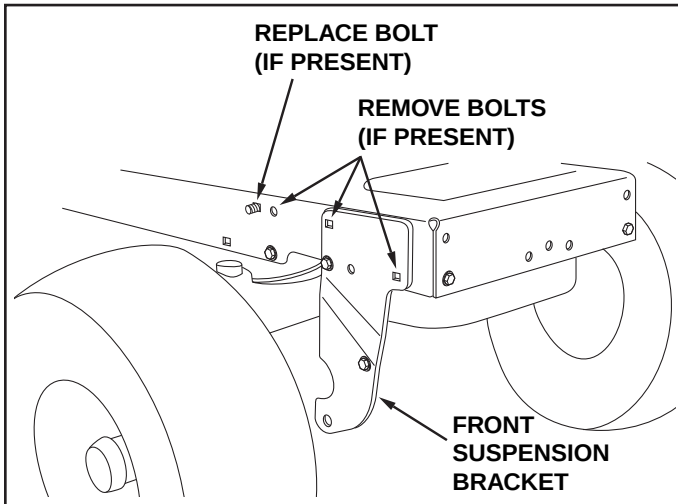

FIGURE 20
If your tractor resembles figure 20, go to step 21.
STEP 21: (SEE FIGURE 20)
- If a bolt is present in the fourth hole, replace it with a 5/16" x 1" carriage bolt (J) without a nut. The bracket fastened to inside of frame must remain in place.